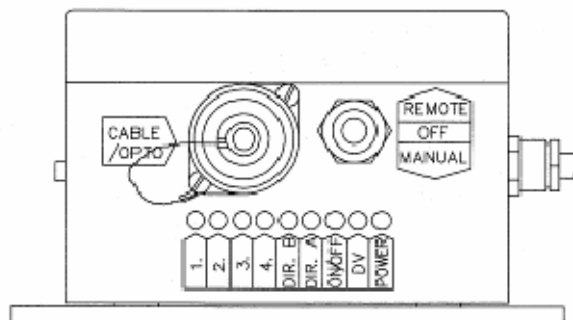

Figure 49 Remote Control Receiver
- i. Record which LEDs are illuminated on the remote control receiver (see Figure 49 and refer to Table 18).
211. Error Messages. Error messages can be read using LEDs. 1 to 4 on the remote control receiver box (see Figure 49). LED No 1 always flashes once first, followed by a combination of 2, 3 and 4 to indicate the actual fault. Refer to Table 18 for fault code indications.